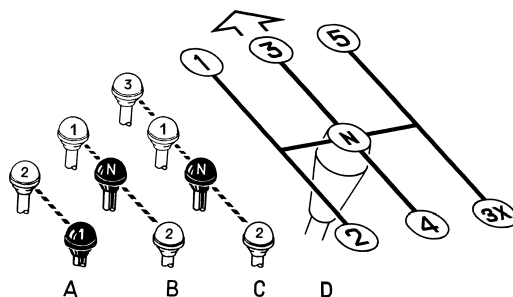

Fig.4.10. Changeover layout:
**21. Transfer case gearshift lever** (for 4×4 type of vehicles with two transfer case gearshift levers). Changeover layout for gearbox and transfer case gearshifting and differential lock engagement is given in fig. 4.10.
– gearshift and differential lock engagement lever of transfer case (for 4×4 type of vehicles with one transfer case lever). Changeover layout is given in fig. 4.10.
**23. Transfer case differential lock engagement lever** (for 4×4 type of vehicles with two transfer case gearshift levers). See changeover layout in fig. 4.10.